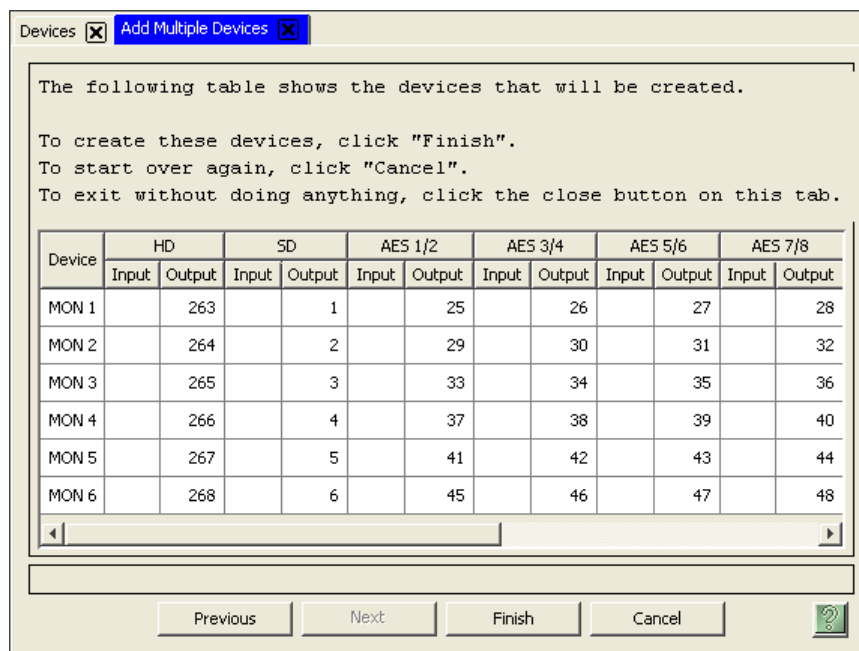

Figure 9-5. Add Multiple Devices Verification Page
- 6 Click Next. The ‘Add Multiple Devices Verification’ page appears, as shown in Figure 9-5.